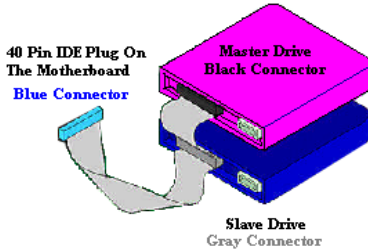

Figure 2-10. How to connect an Ultra ATA/66 Cable to the Motherboard
- Attach the BLACK connector to the mating plug on the master hard drive. Attach the GREY connector to the mating plug on the slave drive (secondary hard drive, CD-ROM, or tape drive). Please refer figure 2-10.